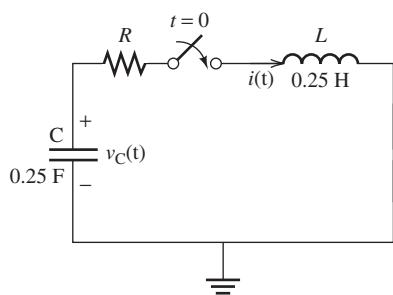

FIGURE P5.44 Circuit for Problem 5.44.
- 5.44** (A) Consider the circuit shown in Figure P5.44. The switch closes at $t = 0$, after the capacitance is fully charged $v_C(0-) = 6$ V: